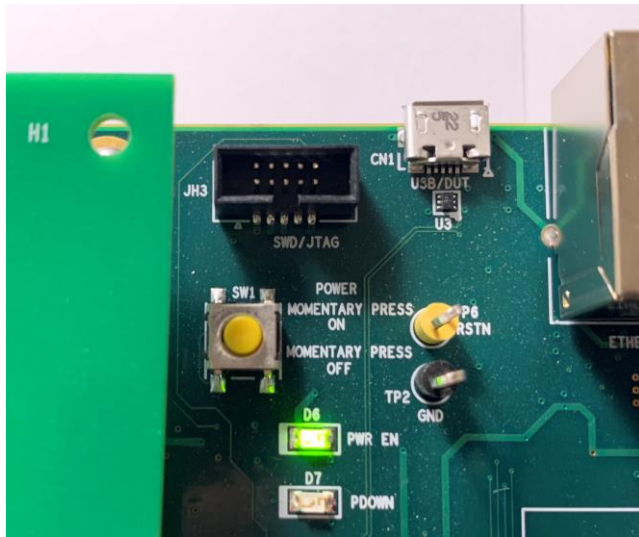

Figure 6: MAX32570 Power Button and Power Enable LED
4. Press SW1 momentarily to power the board. The PWR EN LED (D5) should light as shown in Figure 6.